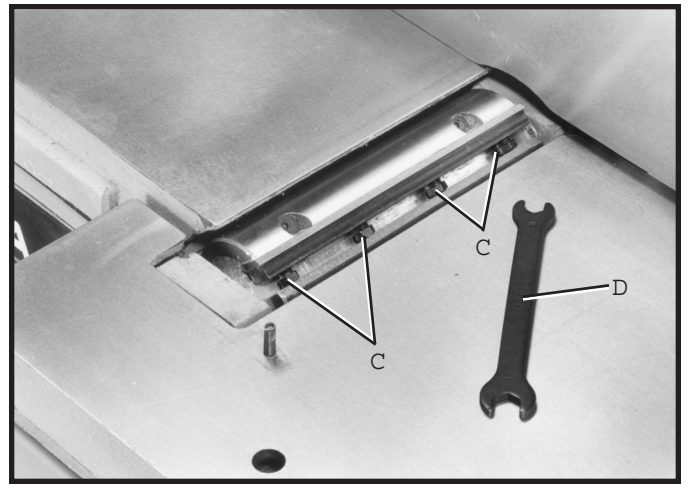
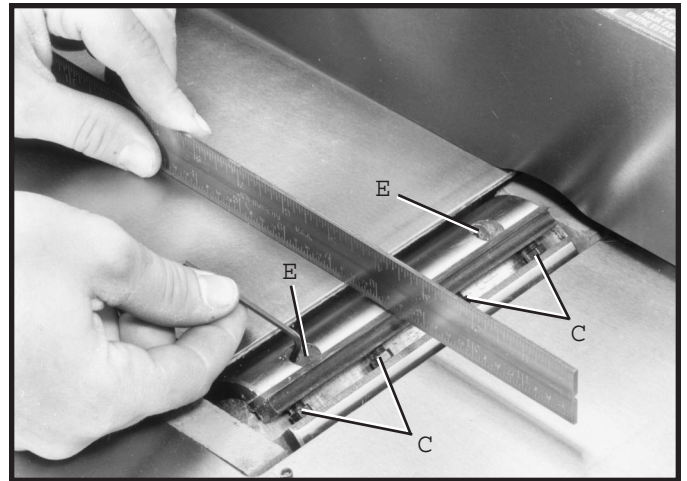

Fig. 27
Fig. 28
5. If the knife is high or low at either end, slightly turn four screws (C) Fig. 27, in the knife locking bar clockwise to loosen, using the wrench (D) supplied. Then adjust the height of the knife by turning the knife raising screws (E) Fig. 28, counterclockwise to lower, or clockwise to raise, the knife. NOTE: If the knife must be lowered, it will be necessary to carefully push down on the knife after screws (E) have been turned. IMPORTANT: Tighten knife locking screws (C) after adjustments are made.